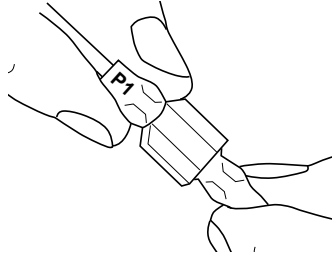

Figure 17 - Connecting P1 Wires
8. Insert the male port, which is on the black power supply wire (marked with P2), into the corresponding female port (marked with P2), (see Figure 17).